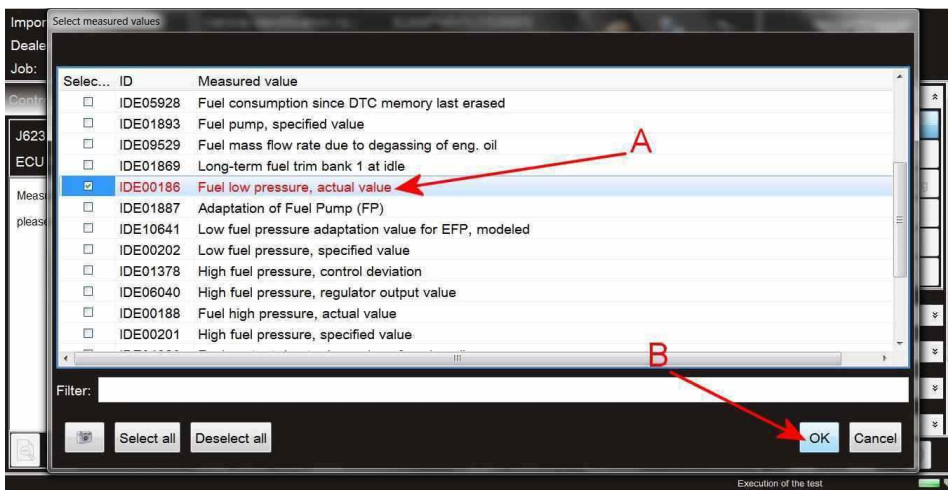

Figure 2
- Referring to Figure 2 (Point A) - Navigate to Measured value IDE00186 Fuel low pressure, actual value